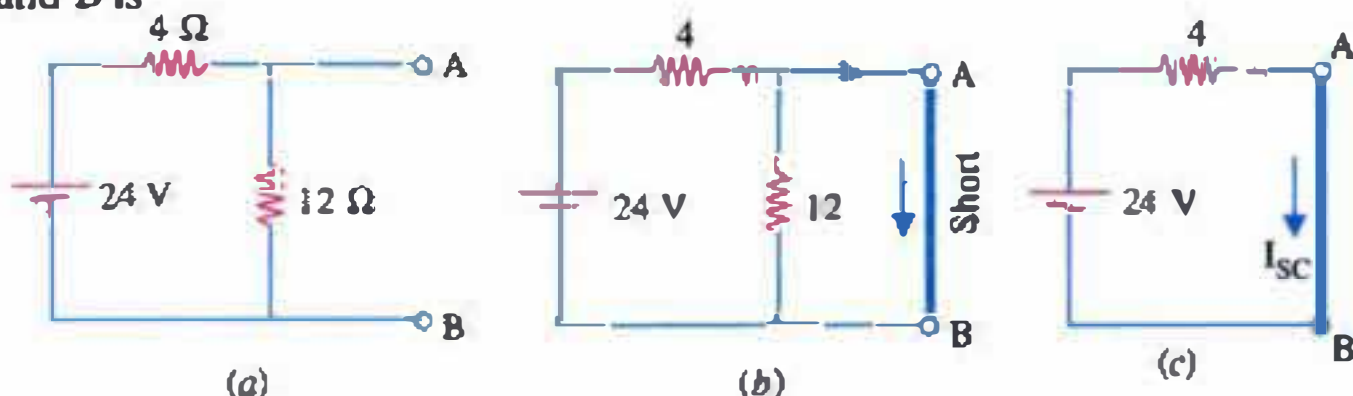
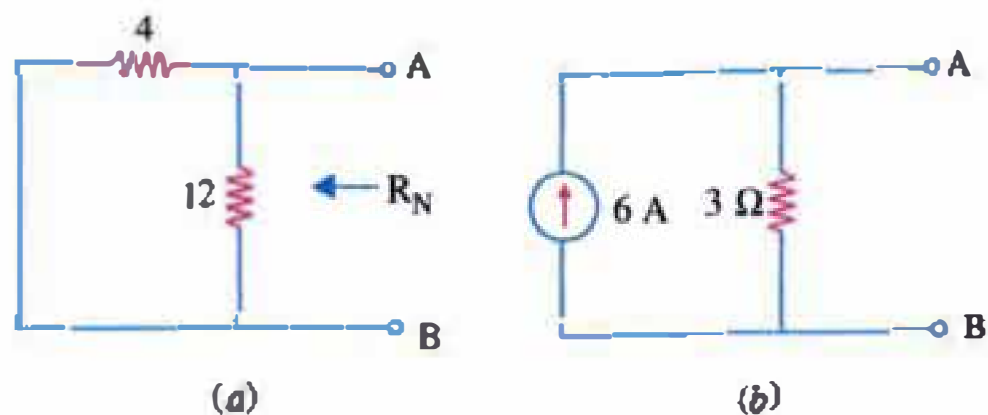

Fig. 4.16
Fig. 4.17
Suppose we want to Nortonise the circuit shown in Fig. 4.16 (a) i.e., we want to find Norton's equivalent of this circuit between terminals A and B.
I. First Step. Put a short across terminals A and B [Fig. 4.16 (b)]. As seen, it results in shorting out 12Ω resistor as
shown separately in Fig. 4.16 (c).
Hence, Norton's equivalent of the given circuit in Fig. 4.16 (a) becomes that shown in Fig. 4.17 (b). It consists of a 6 A constant-current source (of infinite resistance) in parallel with a 3 Ω resistance.